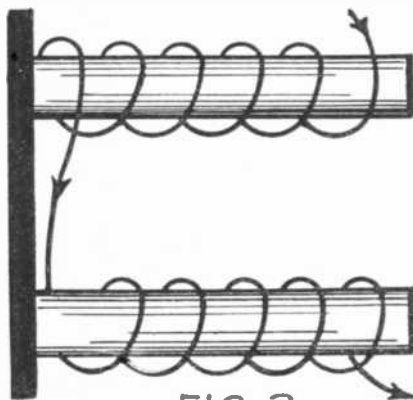

FIG. 2
Fig. 2 is that used by the writer with 110 volts A.C. The main switch is at (M). Switch (S-1) connects the tungar